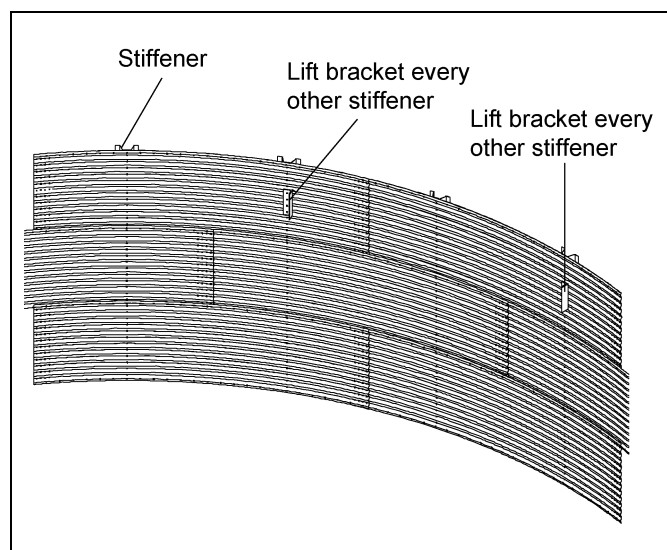

Figure 16A
- a. Lifting brackets should be attached to the stiffeners. At least one bracket per sidewall sheet should be used. These would typically be attached in the third ring from the bottom of the tank. Brackets should attach to a minimum of four (4) bolts through the stiffener. Attach cables to the lift brackets and to the crane hook, which has been lowered through the center ring opening. Cables should be sized to handle the entire weight of the bin. Make all lift cables of equal length before the bin is lifted. (See Figure 16A and Figure 16B.)